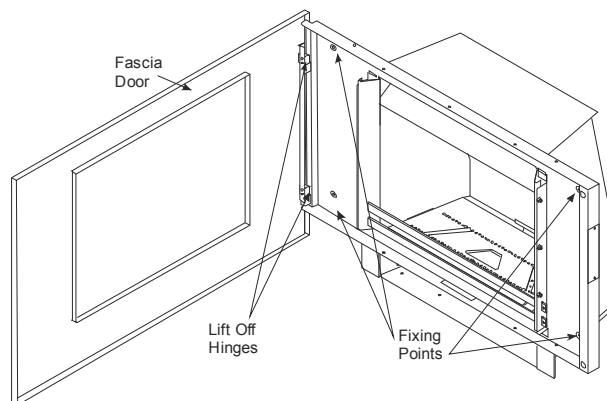

Figure 59
2. Separate the door from the mounting frame by opening and lifting the door off of the two-part hinges as indicated in **Figure 59**. Set the door carefully aside.